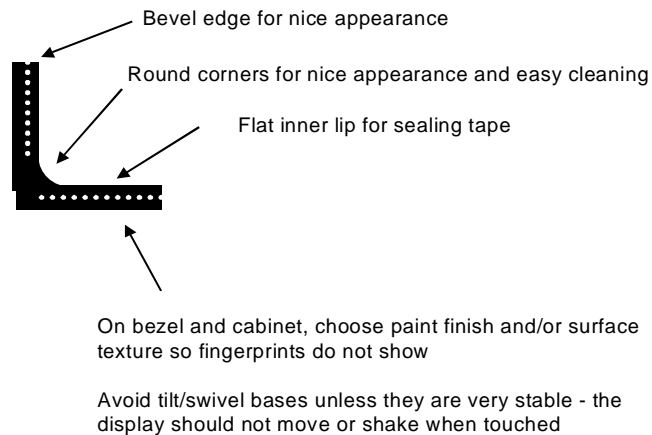

Figure 4.2 Bezel design
- Use two layers of the double-sided adhesive tape to achieve a total thickness of 1/16-inch (2 mm). While specific touchscreen and CRT combinations may allow the use of thinner materials, 1/16-inch (2 mm) is generally necessary to allow for variations in ROC between the two glass surfaces. Review the fit between the touchscreen and the CRT before applying the tape. If one pair of opposite edges has a closer fit than the other, put the adhesive tape on the edges of the touchscreen with the better fit. See figure 4-2 for typical placement. If there is a good fit on all four edges, you may want to use double-sided adhesive tape on all four edges. When doing this, move the adhesive tape in slightly on one pair of edges and add foam sealing tape outside these two edges. The thicker foam tape will keep the adhesive tape away from the CRT until you are ready to adhere the touchscreen to the monitor.
- Cut and place the foam sealing tape on the back of the touchscreen to form a dust seal as shown in Figure 4.2 on page 4-22. This seal is particularly important because the CRT is a good electrostatic precipitator and will attract dust. The adhesive tape and foam sealing tape should form a complete seal around the touchscreen. Do not leave any gaps. The sealing tape should not be visible when the monitor is reassembled.